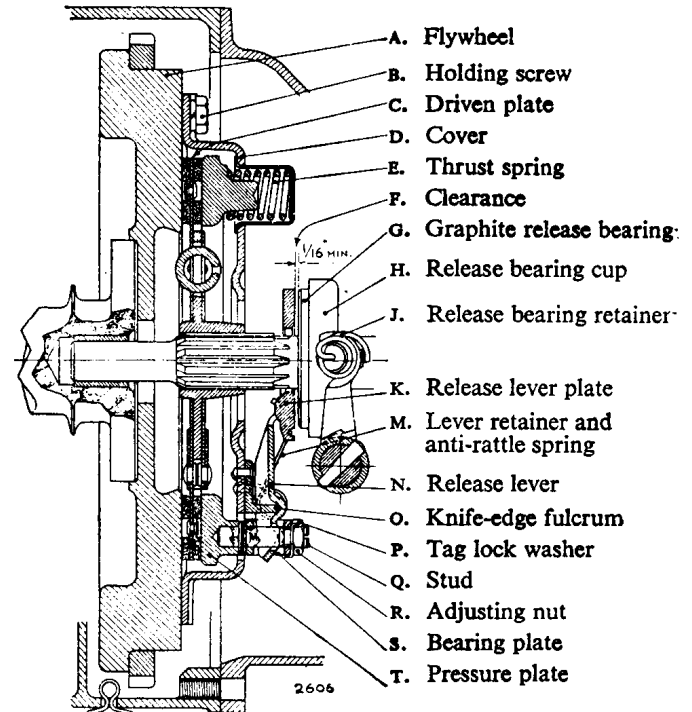
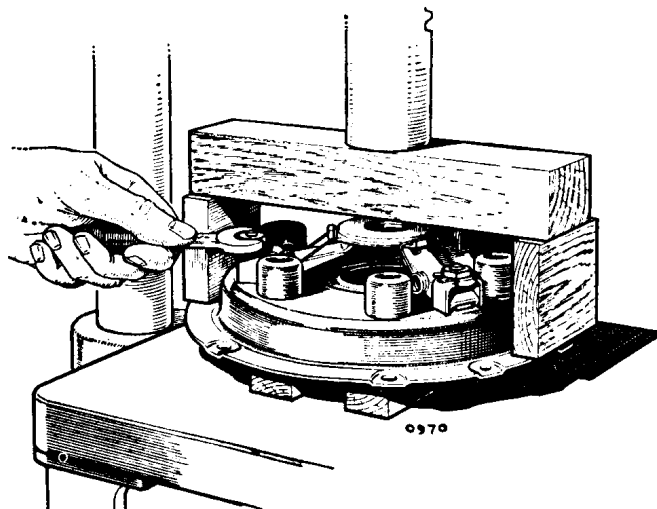

Fig. E.1
Fig. E.3
The general construction may be followed by reference to Fig. E.1 and the following description.
First straighten the bent-up lobes of the tag lock washers (P) (Fig. E.1), then place the cover on the bed of the press with the pressure plate resting on wood blocks so arranged that the cover is left free to move down. Place three blocks of wood to form a bridge, the legs of which should rest on the outer rim of the clutch cover as shown in Fig. E.3.
Compress the cover with the spindle of the press, and, holding it under compression, remove the adjusting nuts (R) (Fig. E.1) and then slowly release the pressure to prevent the thrust springs from flying out.
the release lever ends. Finally, the retaining springs (M) should be fitted into the grooves formed in the release lever plate as indicated in Fig. E.1.